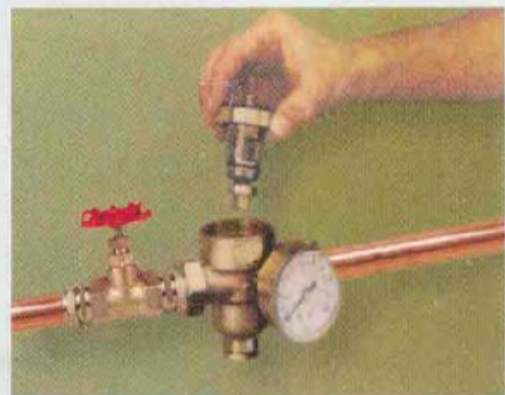

Figure 3
- 2) Use a screwdriver or pliers, take out the spool and spare basket,after washing or replacement,install them back to body in correct sequence and then adjust (Figure 3).